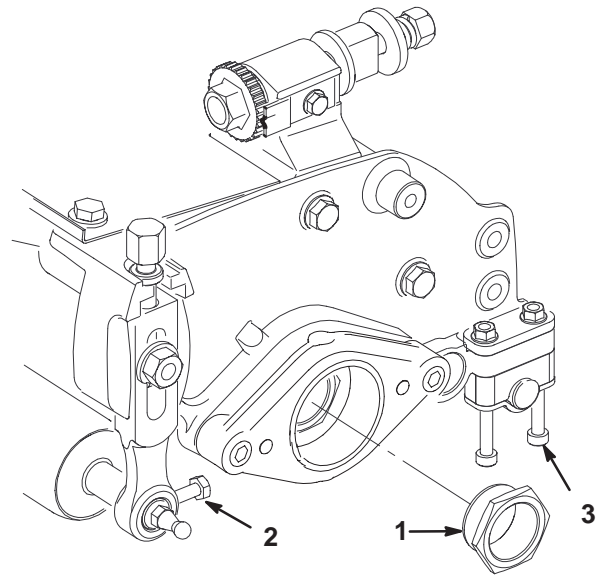

Figure 3
- Remove the reel bearing lock nut from each end of the reel shaft (Fig. 3).
- Loosen the setscrews securing the front roller to the height of cut arms (Fig. 3). Do not remove the set screws.
- Loosen the saddle strap screws and flange nuts securing the rear roller to the side plates (Fig. 3). Do not remove the screws and nuts.